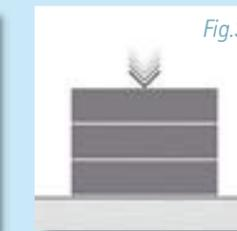

Fig.3
- Where blocks are laid flat for "trenchblock" footings, use Bescrete Solid Blocks (see Fig.3)